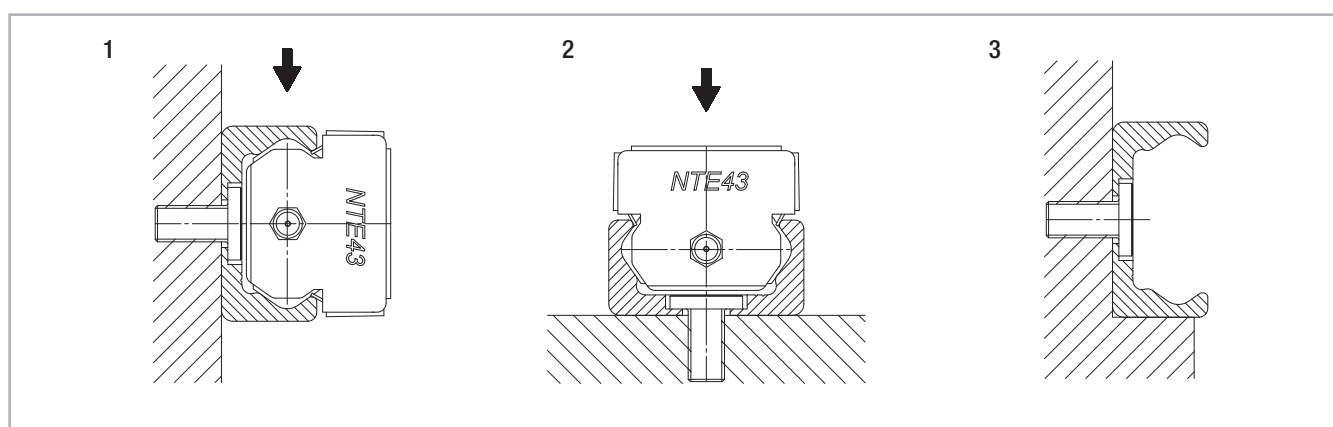

Fig. 101
The T- and K-rails can be installed in two positions relative to the external force. For axial loading of the slider (fig. 101, pos. 2), the load capacity is reduced because of the decline in contact area caused by the change in position. Therefore, the rails should be installed in such a way that the load on the rollers acts in the radial direction (fig. 101, pos. 1). The number of fixing holes in the rail in combination with screws of property class 10.9 is dimensioned in accordance with the load capacity values. For critical applications with vibrations or higher demand for rigidity, a support of the rail (fig. 101, pos. 3) is advantageous.